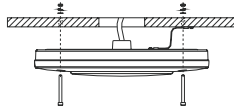

Figure 5
3. Fix another side of safety rope on the ceiling, then connect the wire of fixture to main supply according to local electrical connection mode, make sure good protection on the wire joint, after that, fix the fixture on the ceiling with accessory screws (Figure 5).